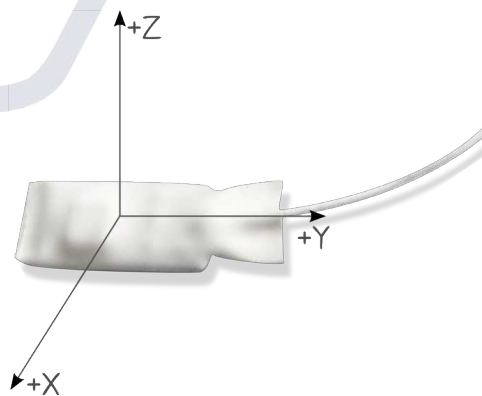
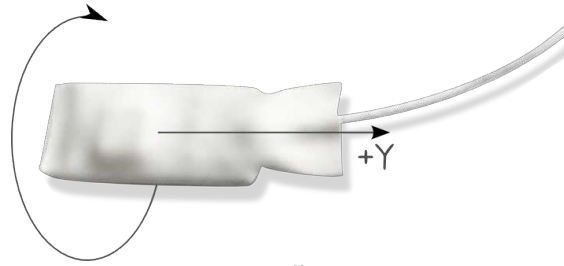

Figure 4: xyzPlux axis orientation
Figure 5: Roll movement
3. Taking into account Figure 4 and the represented axis orientation, start an acquisition and slowly make a roll movement as shown in Figure 5. This rotation movement should at least complete 180°;